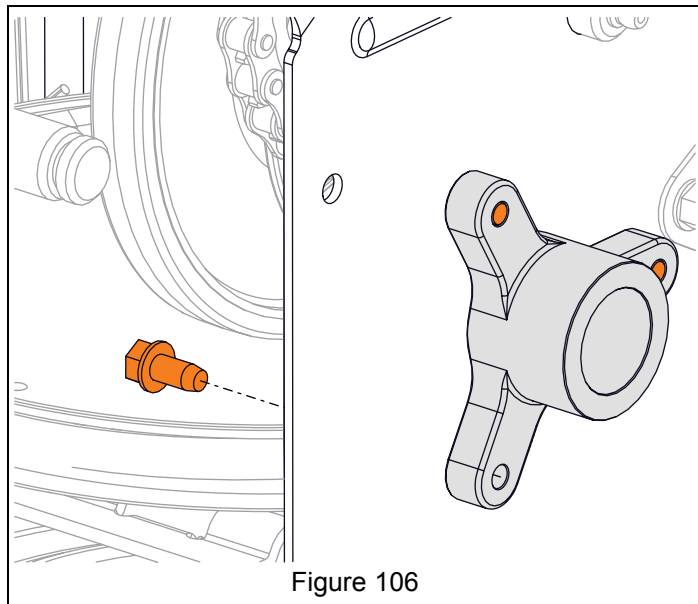

Figure 106
8. Remove flange bushings from pinion gear. See Figure 106.